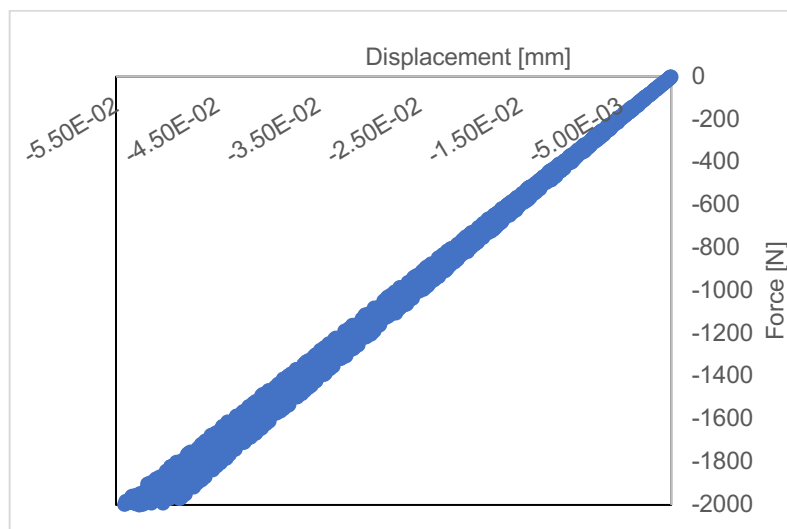

Figure 3. Force-displacement relationship obtained from the compression mechanical testing of a section of the femur bone.
We then used a universal testing device (like an Instron Machine) to find the relationship between the displacement δ and the force F for this sample, as shown in Fig. 3. We define the apparent stiffness S_a of this sample as the slope of a line that best represents data in Fig. 3. Since displacement should be zero when no force is applied, the apparent stiffness at each step of the experiment should be
- **Part (b)** Import the data of Fig. 3 into MATLAB using the file “ForceDisplacement.csv” that I have provided for you in CANVAS and using `readmatrix` command. Use “polyfit” command in MATLAB to find the slope of the line S_a that best fit the force-displacement data. Use that slope value of S_a (assume that the intercept is zero) and plot a line over the raw data. This section has 10 points.